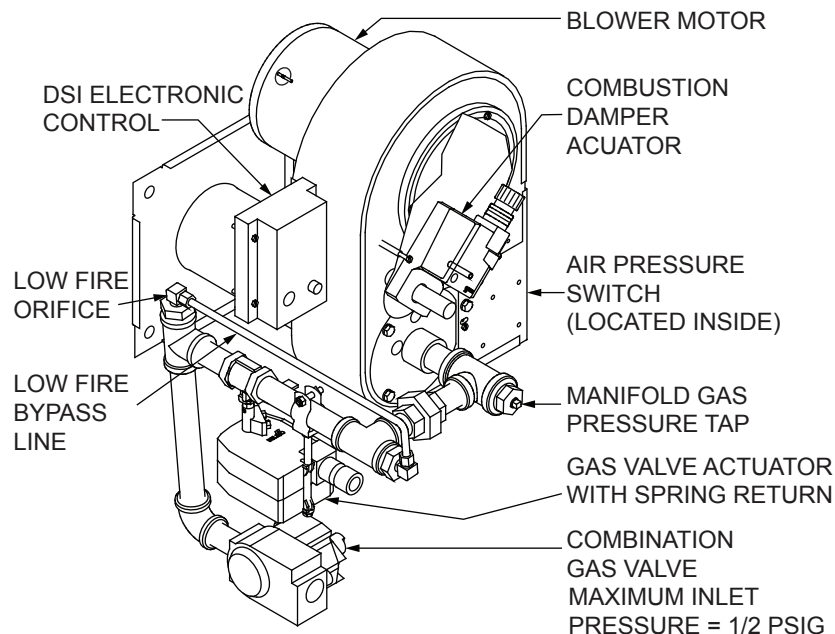

Figure 2: Typical Piping Diagram
- If the burner piping must be rearranged because of space limitation, be sure to carry out the general arrangement shown in Figure 2. Install the combination valve in any position except up-side down.